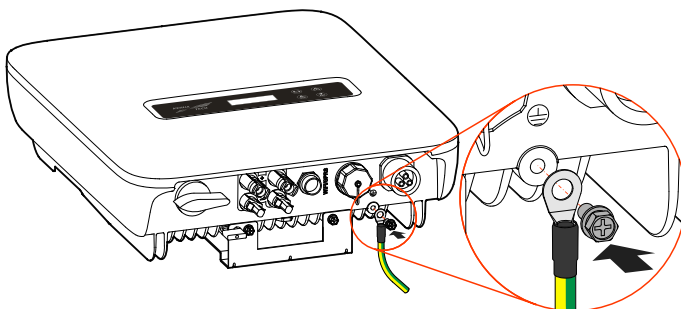

Figure3-15 External grounding wire connection
Step 2 Connect the crimped grounding wire to the external grounding terminal, as shown in Figure3-15.